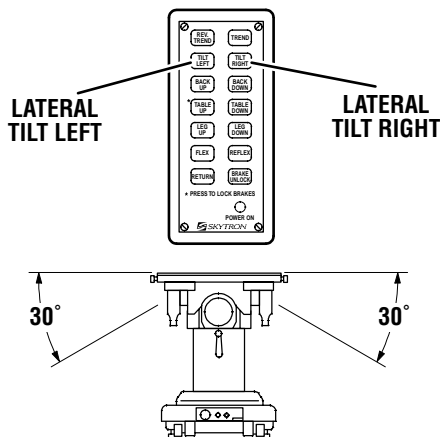

Figure 3-5. Lateral Tilt Positioning
**c. Lateral Tilt.** To achieve lateral tilt right (as viewed from the head end of the table), press the TILT RIGHT button (figure 3-5). Tilt of up to 30° may be obtained. To achieve lateral tilt left, press the TILT LEFT button. Tilt of up to 30° may be obtained.